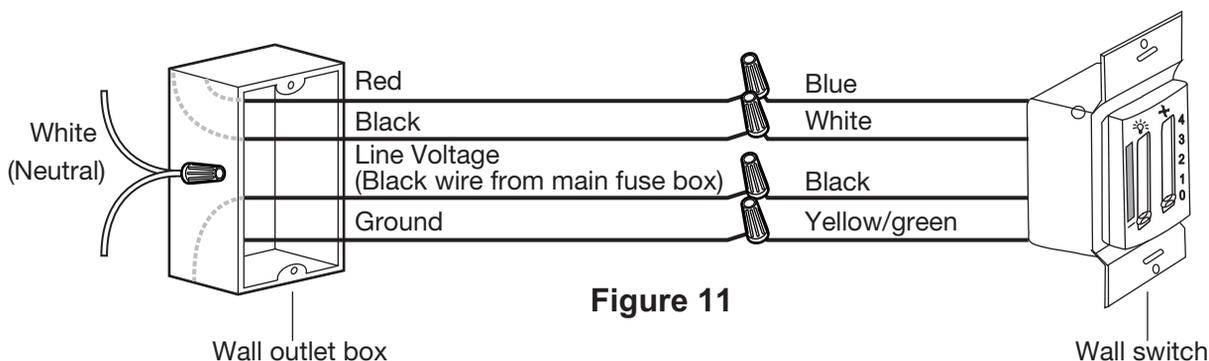

Figure 11
b. Connecting the wires from the switch to the wires from the wall outlet box. (Fig. 11)